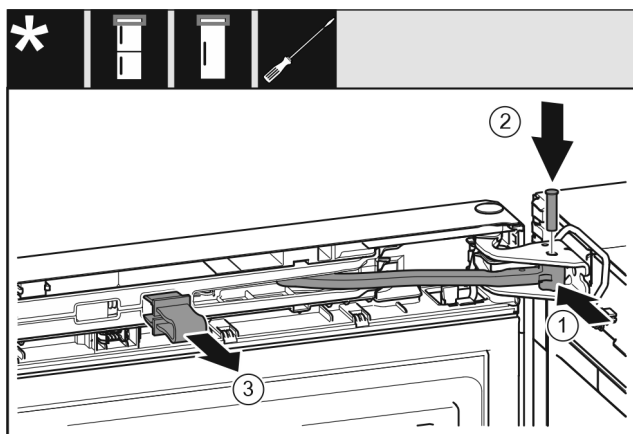

Fig. 38
- ▶ Turn the joint Fig. 38 (1) in the bearing block.
- ▶ Insert the bolt Fig. 38 (2) into the bearing bracket and joint. Ensure that the latching cam is in the groove properly.
- ▶ Remove the safeguard Fig. 38 (3).